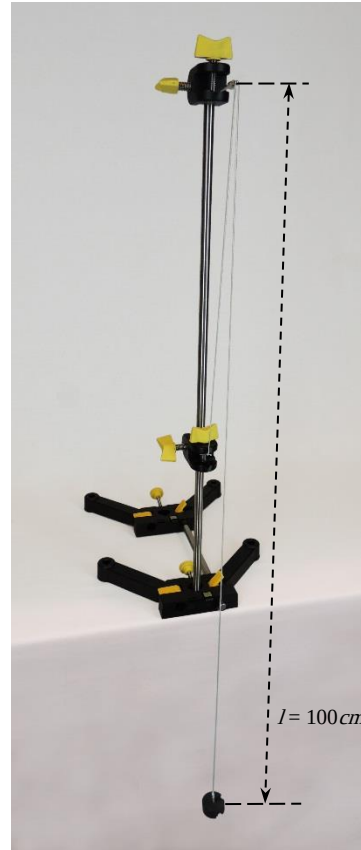

Figure 1.10: Simple pendulum.
1.5.3 Task (3): Measuring the periodic time of a simple pendulum.
- 1- Use the parts shown in Figure 1.3 to construct the simple pendulum shown in Figure 1.10. Try to adjust the height of the lower bosshead (14) and use the measuring tape (2) to make the total length of the pendulum from the holding pin to the center of mass of the weights (13) as close to 100 cm as possible.